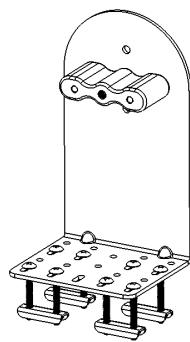

Figure 32
Step 2 – Attach Upright Base to either side of the L-Bracket using the hardware included (see **Figures 32** and **33**).